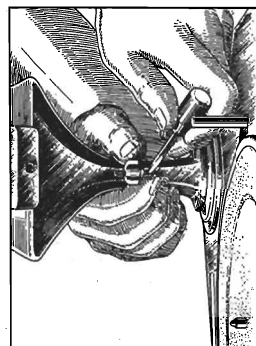

Figure 2—Adjusting height of tone arm
5. Place a Home Recording needle into the pickup as far as it will go. Then lower the pickup on the side of the turntable. The needle should extend from  $\frac{1}{8}$ " to  $\frac{1}{16}$ " below the top of the metal edge of the turntable. If it does not, an adjustment can be made by means of a screw located under the tone arm. Lifting the arm provides accessibility to the screw. See Figure 2.